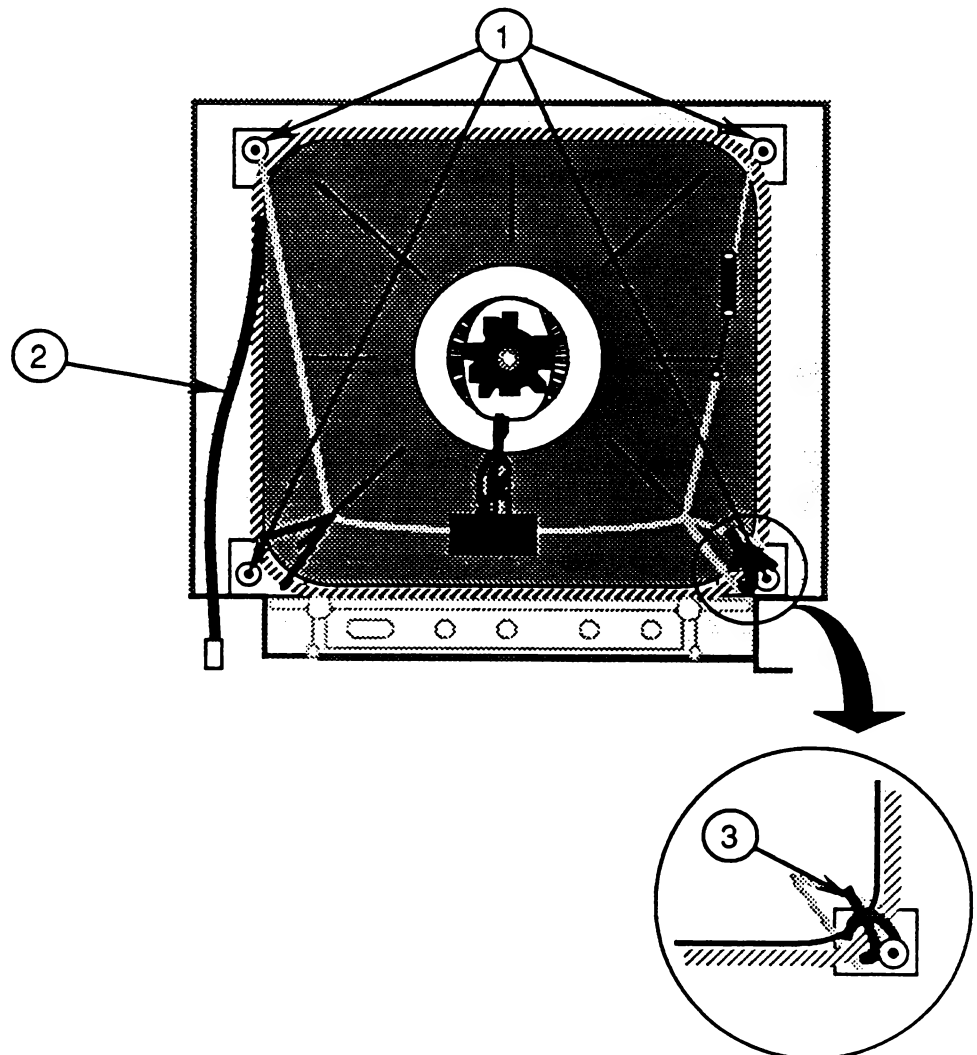

FIGURE 54
5. Unscrew the four CRT mounting screws (Figure 54, #1).
2. Carefully place the CRT/degaussing coil assembly into the front bezel, making sure the degaussing coil ground strap (Figure 54, #2) is on the left side as you face the back of the monitor.
3. Tighten the four CRT mounting screws (Figure 54, #1) through the mounting brackets at the corners of the CRT. Make sure each screw is positioned through the plastic holding tabs (Figure 54, #3).